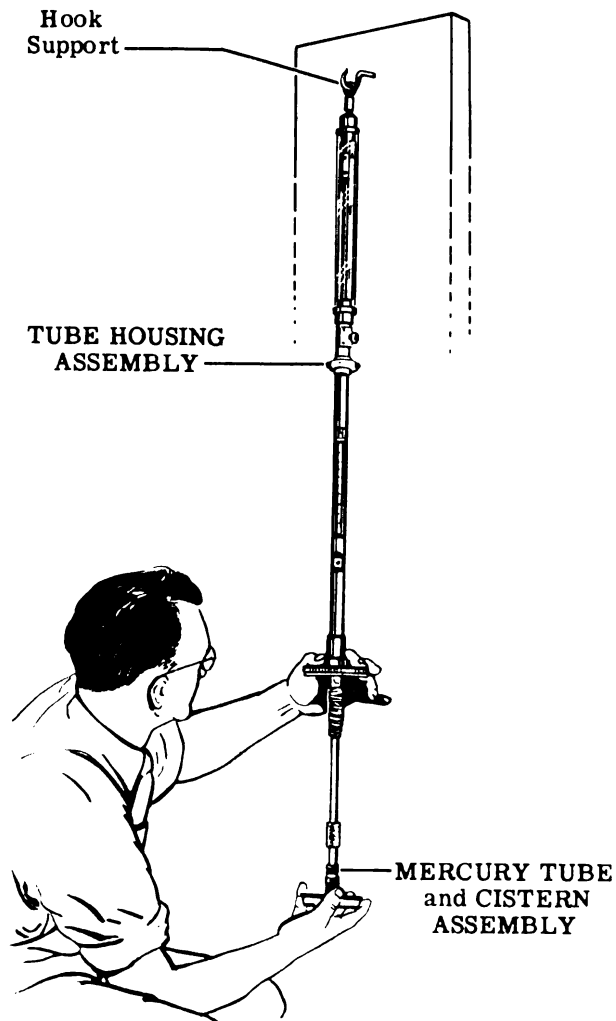
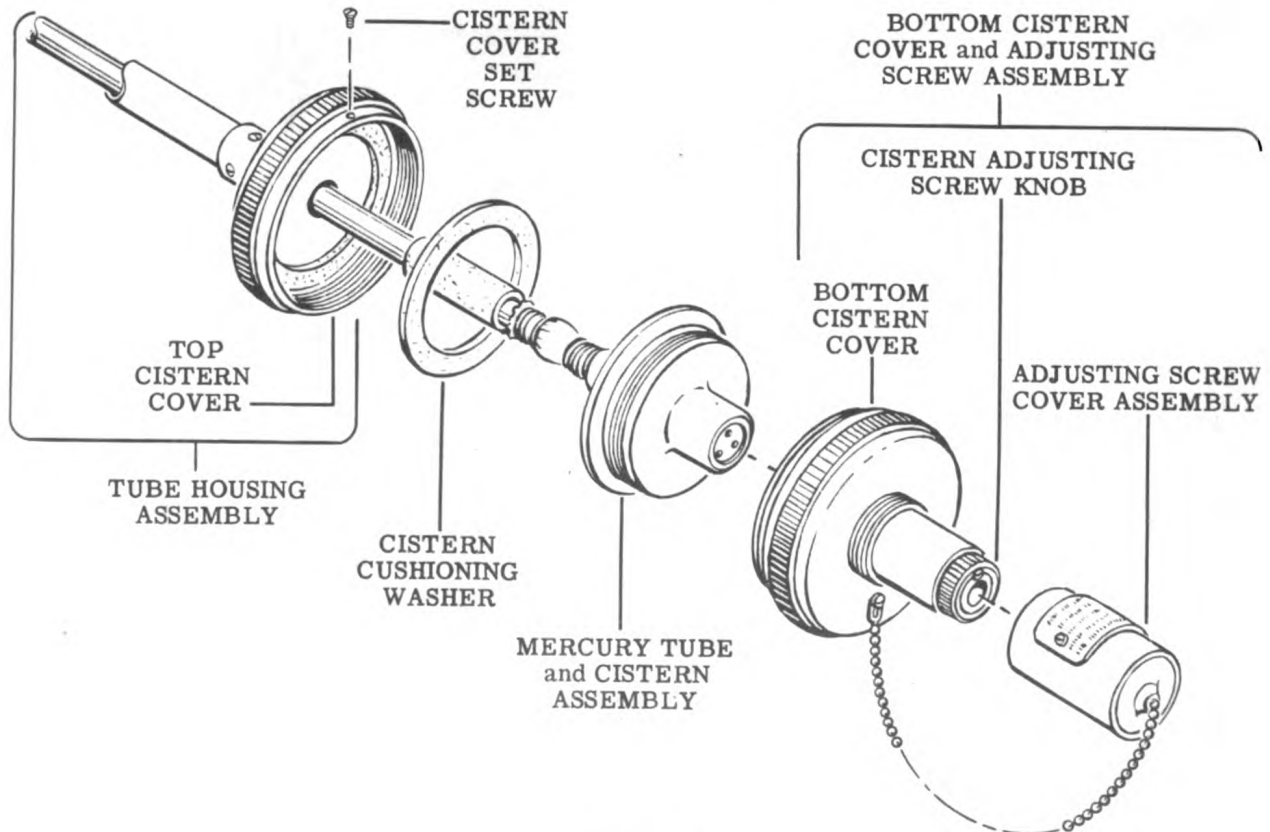

Figure 6
Figure 7
4. Carefully lift the barometer assembly to an upright position. Hang the barometer assembly on a suitable hook, in readiness for further disassembly. See Fig. 6.
5. Unscrew the adjusting screw cover assembly from the underside of the bottom cistern cover. Rotate the cistern adjusting screw knob to the left, as far as it will go. Then screw the adjusting screw cover assembly back on the bottom cistern cover. See the exploded view, Fig. 7.
6. Scribe a guide mark for reassembly purposes on the front of the top and bottom cistern covers. Remove the cistern cover set screw. See the exploded view, Fig. 7.
port it. Allow the mercury tube and cistern assembly to slide slowly out of the tube housing assembly. If it does not slide down of its own weight, grasp it by the cistern assembly and pull it gently from the housing, as shown in Fig. 6. See the exploded view, Fig. 7, for parts.
8. Remove the cistern cushioning washer from the top cistern cover. See the exploded view, Fig. 7.